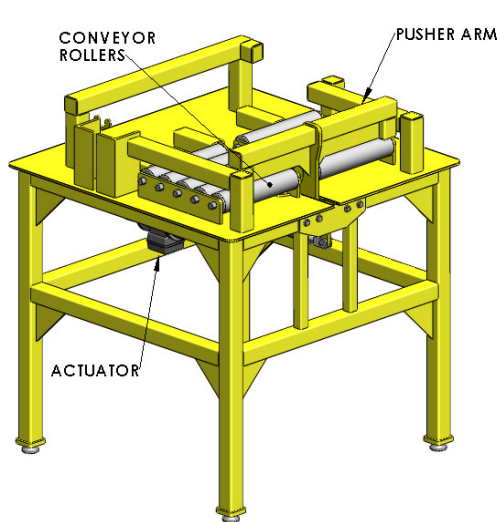

FIGURE 1
1. Inspect the table before use. The actuator must be working properly. All the conveyor rollers must be in place and moving freely (Figure 1). The table pusher arm must be in the retracted (open) position.